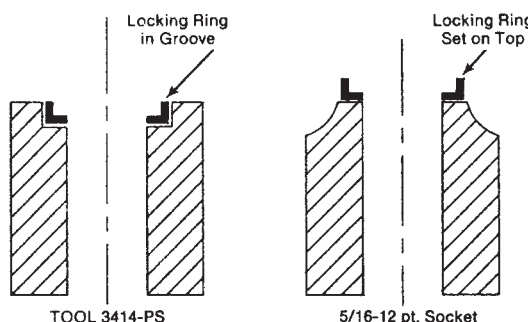

FIG. 1
- Place the locking ring into the groove on the installation tool or on the top edge of the twelve point 5/16 socket with outer lip facing upwards (Fig. 1).